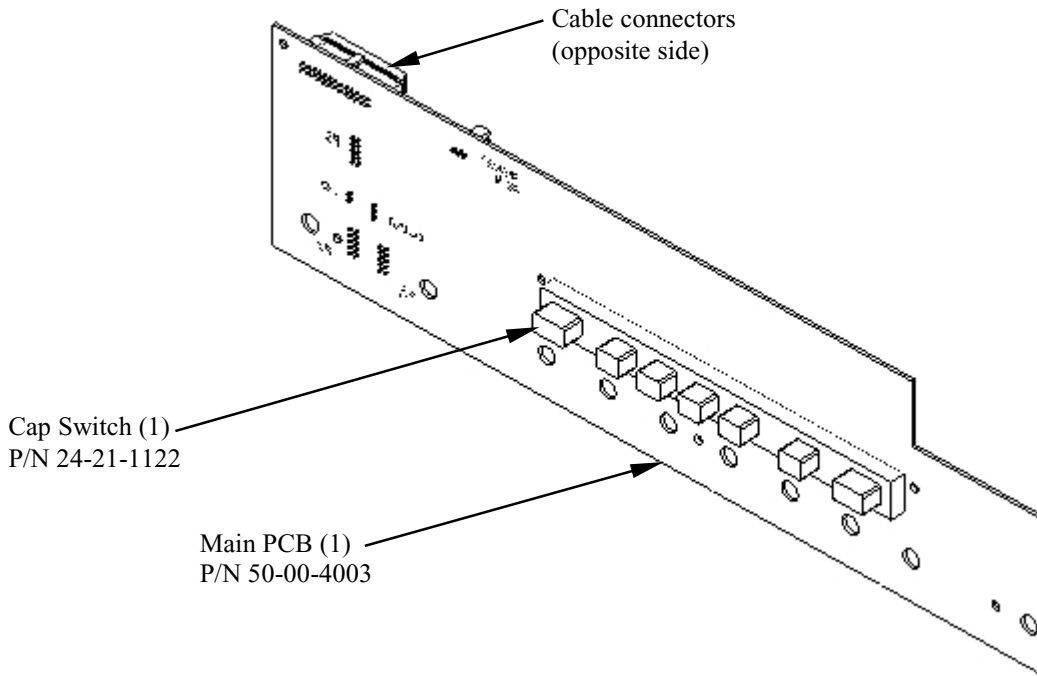

Figure 1
- a. Align the Button assembly with the holes in the PCBA and snap the buttons onto the PCBA. See Figure 1.